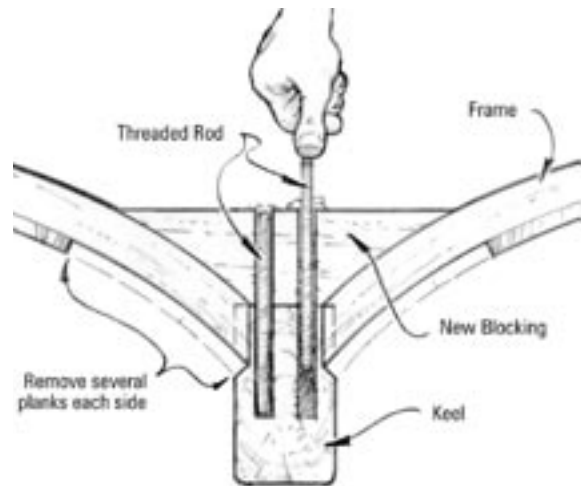

Figure 5-11 Bond threaded rod through the blocking and at least 75mm into the keel.
10. Push the coated rod to the bottom of the filled hole (*Figure 5-11*). Fill the holes to the top as necessary. Clean up excess epoxy before it cures.